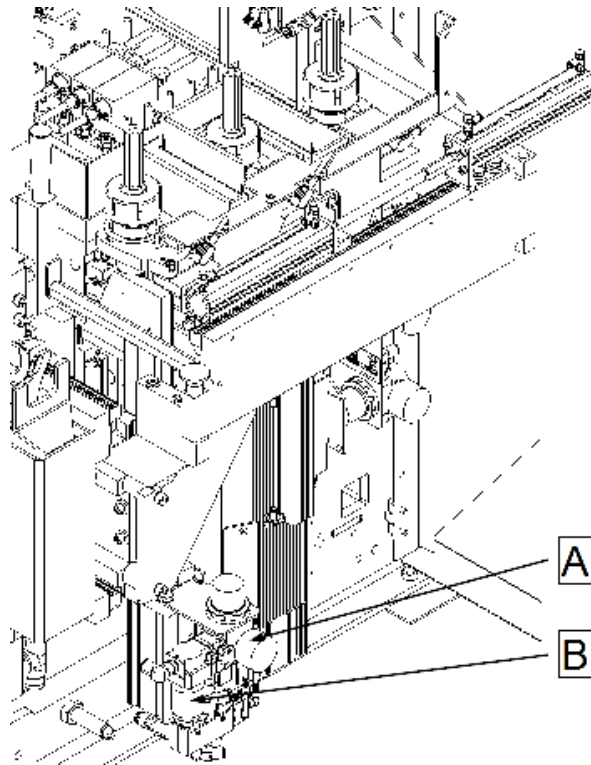

Fig.51- Tool changer regulator and filter position
The pressure regulator factory setting is 4 bar and is set on regulator (A) (see Fig.51, pg.72)!
- Carry out regular maintenance and replacement of the pneumatic circuit filter according to the filter manufacturer's specifications. (Filter B, see Fig.:51, pg.72)